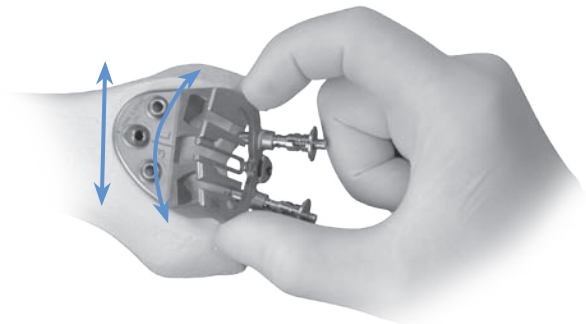

Fig. 21
- If necessary, reposition Milling Guide both mediolaterally and in varus/valgus until the desired location on the femur is determined. (see section 5.2) (Fig. 21).